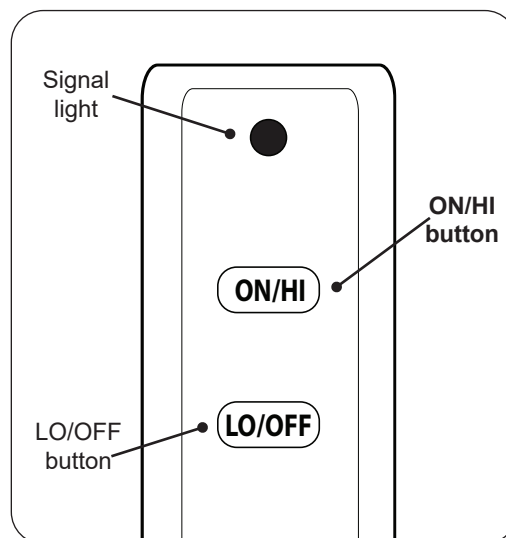

Fig. 29-1 Remote transmitter detail
2. Locate the remote transmitter and press and hold the **ON/HI** button (see Fig. 29-1). The ignition sequence will begin.